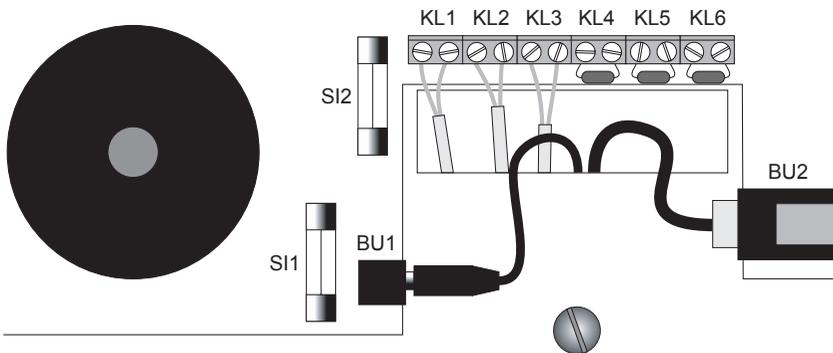

Figure 17
- After all the cables have been led through the opening and connected (as shown in the example in figures 17 and 18), screw in the third screw through the opening. Attach the base station by screwing the third screw into the wall. See figure 17 below.